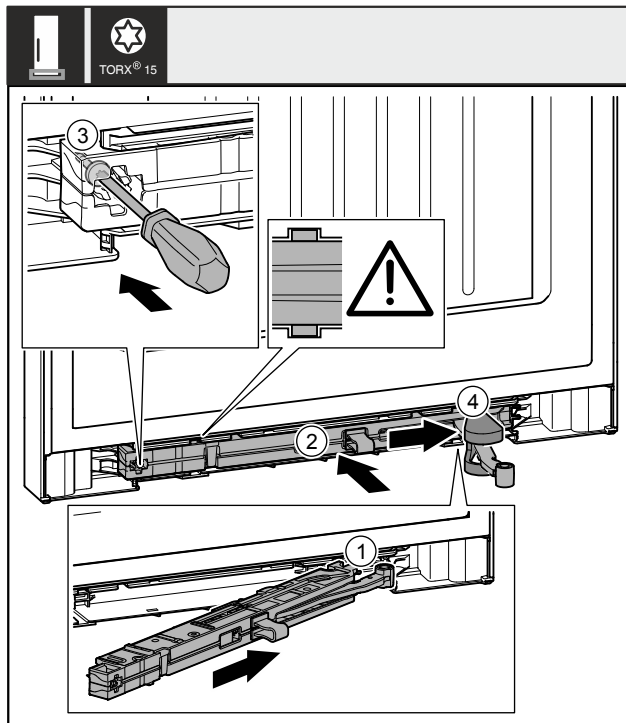

Fig. 42
- ▶ Slide the closing damper unit Fig. 42 (1) on the swap bearing block side up to the stop diagonally into the recess.
- ▶ Push the closing damper unit Fig. 42 (2) completely into the recess.
- ▶ Tighten the screw Fig. 42 (3) with a screwdriver.
- ▶ Push the cover Fig. 42 (4) over the joint.